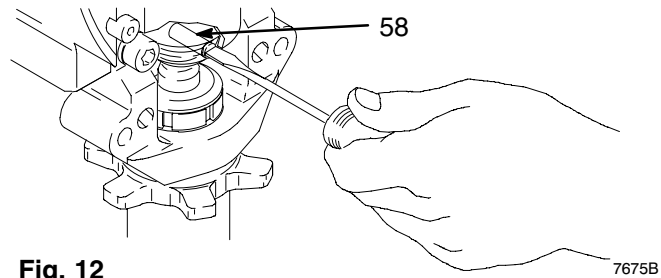

Fig. 12 7675B
5. Fig. 12. Use screwdriver: push retaining spring up and push out pin (58).
2. Fig. 12. Push pin (19) into hole. And push retaining spring into groove all the way around connecting rod.